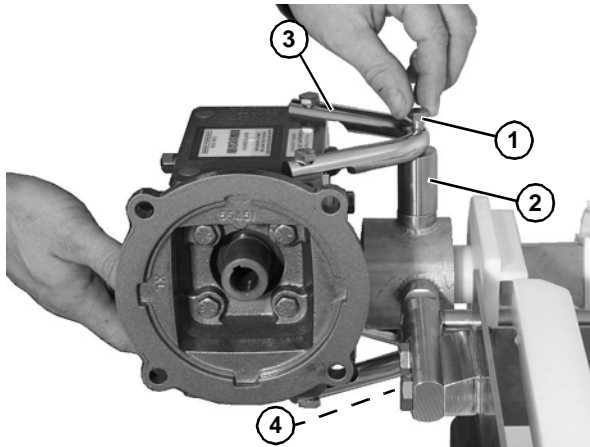

Figure 57
4. Remove top bolt (Figure 57, item 1) and spacer (Figure 57, item 2) holding the bracket (Figure 57, item 3) to the drive assembly.
5. Remove bottom bolt (Figure 57, item 4).